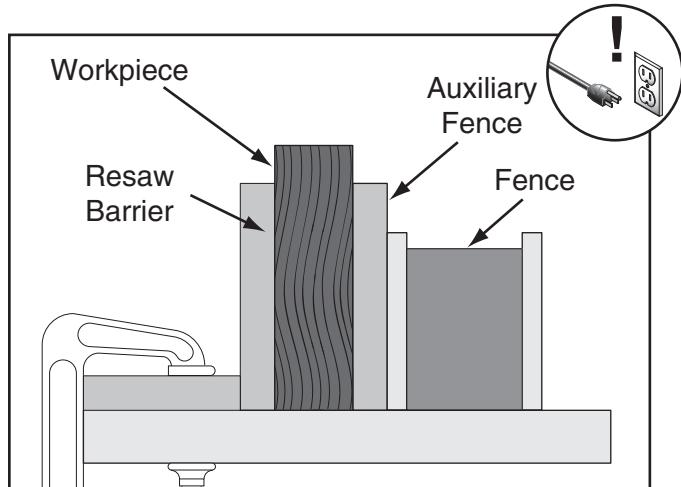

Figure 75. Ideal resaw workpiece setup.
5. Place workpiece against auxiliary fence and slide resaw barrier against workpiece, as shown in **Figure 75**. Now clamp resaw barrier to top of table saw at both ends.